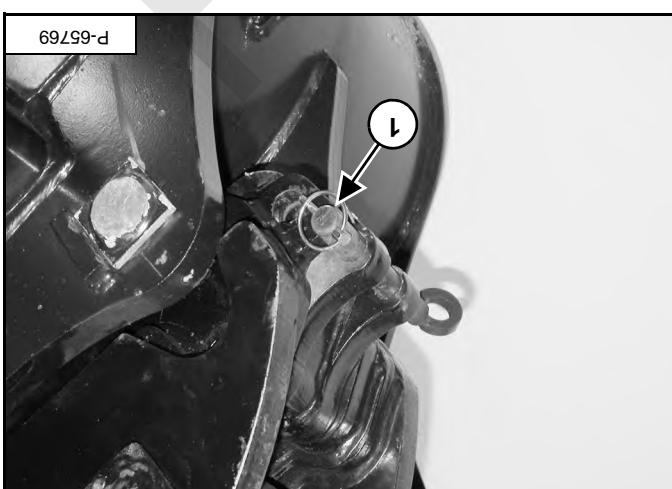

Figure 134
Install the retainer pin (item 1) [Figure 134] to hold the locking hooks in the open position. Remove the release bar.